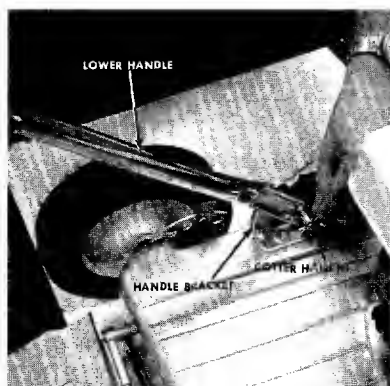

FIGURE 2. LOWER HANDLE ASSEMBLY
2. Assemble the lower handle to the handle brackets as shown in figure 2.
3. Secure the handle with cotter hairpins on both sides. See figure 2.